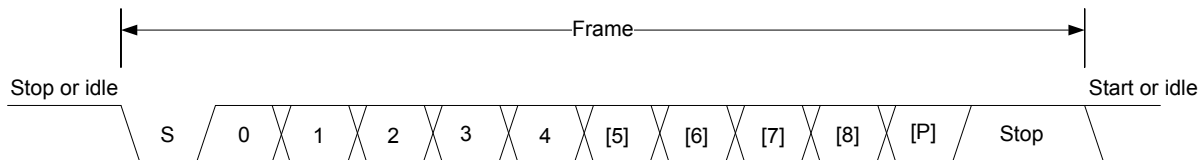

Figure 19.2. USART Asynchronous Frame Format
The frame format used in asynchronous mode consists of a set of data bits in addition to bits for synchronization and optionally a parity bit for error checking. A frame starts with one start-bit (S), where the line is driven low for one bit-period. This signals the start of a frame, and is used for synchronization. Following the start bit are 4 to 16 data bits and an optional parity bit. Finally, a number of stop-bits, where the line is driven high, end the frame. An example frame is shown in Figure 19.2 USART Asynchronous Frame Format on page 599.